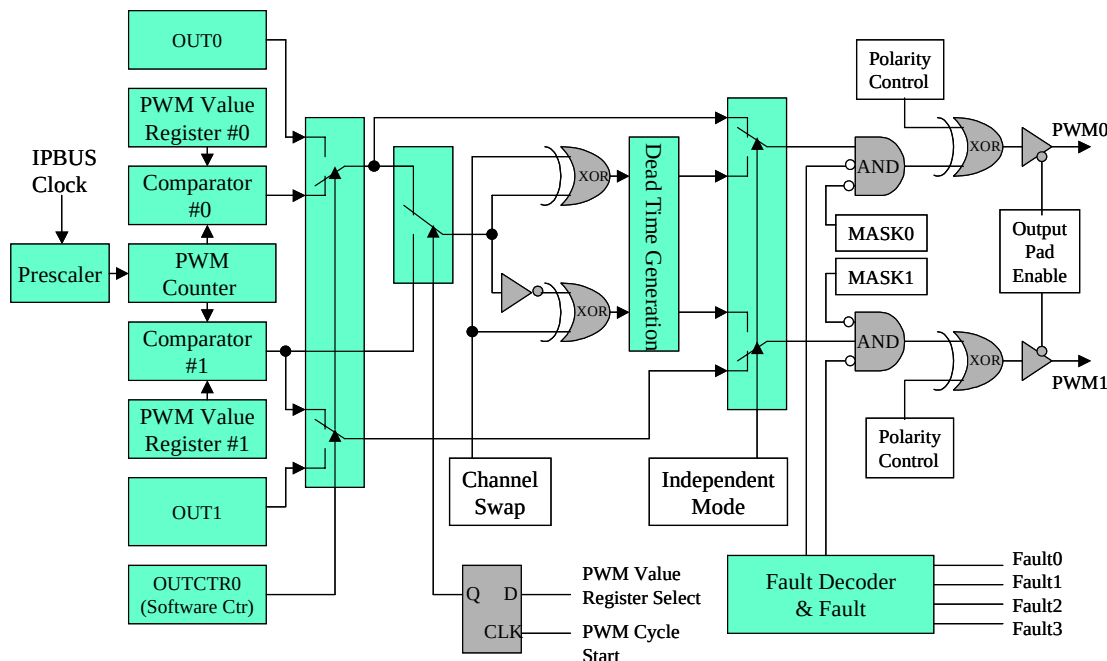

**Figure 1-9. PWM Module Functional Block Diagram**
**Figure 1-9** illustrates a partial functional block of the PWM module.